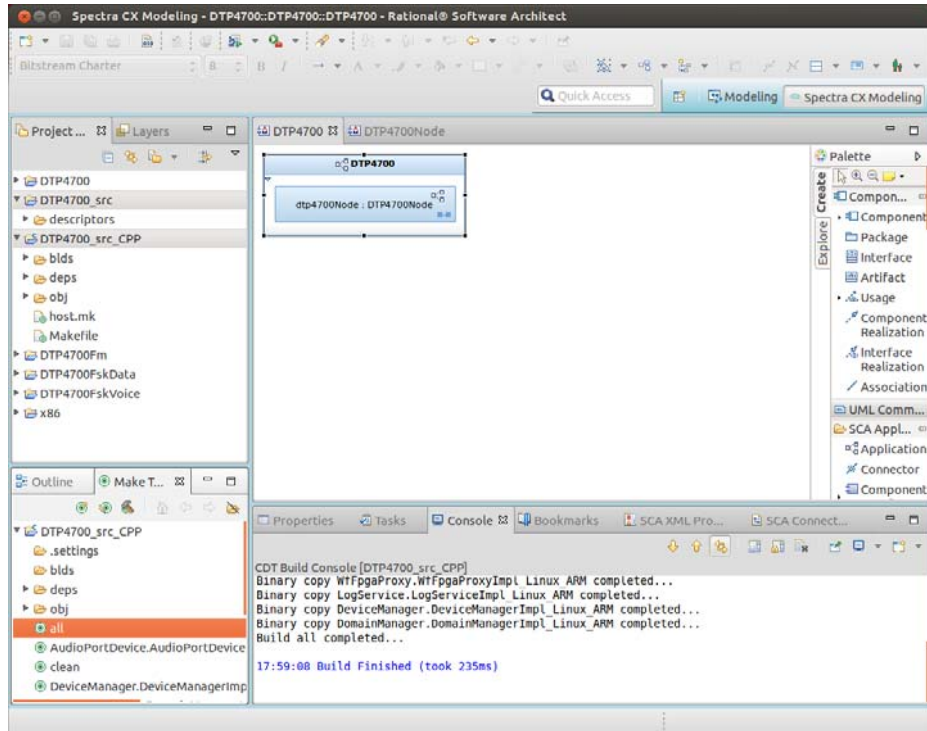

Figure 40 Building the DTP4700 platform
- Step 2:** Double-click the **all** target (see *Figure 40*).